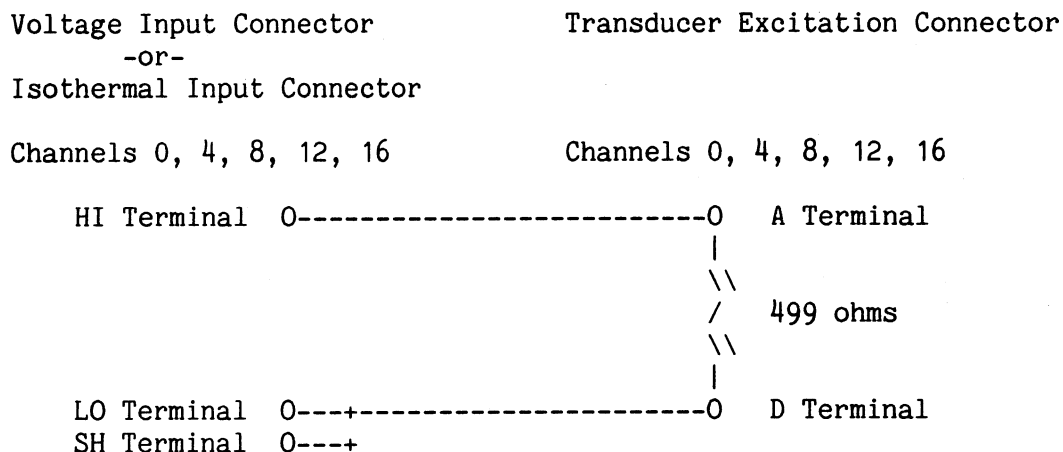

Figure 164-3. Current Excitation Test Wiring Diagram 2
13. Power down the Data Logger and remove the Transducer Excitation Connector. Rewire the connector as shown below. A 499 ohm +/- 1% resistor must be installed between terminals A and D on channels 0, 4, 8, 12, and 16 of the connector as shown in Figure 164-3.